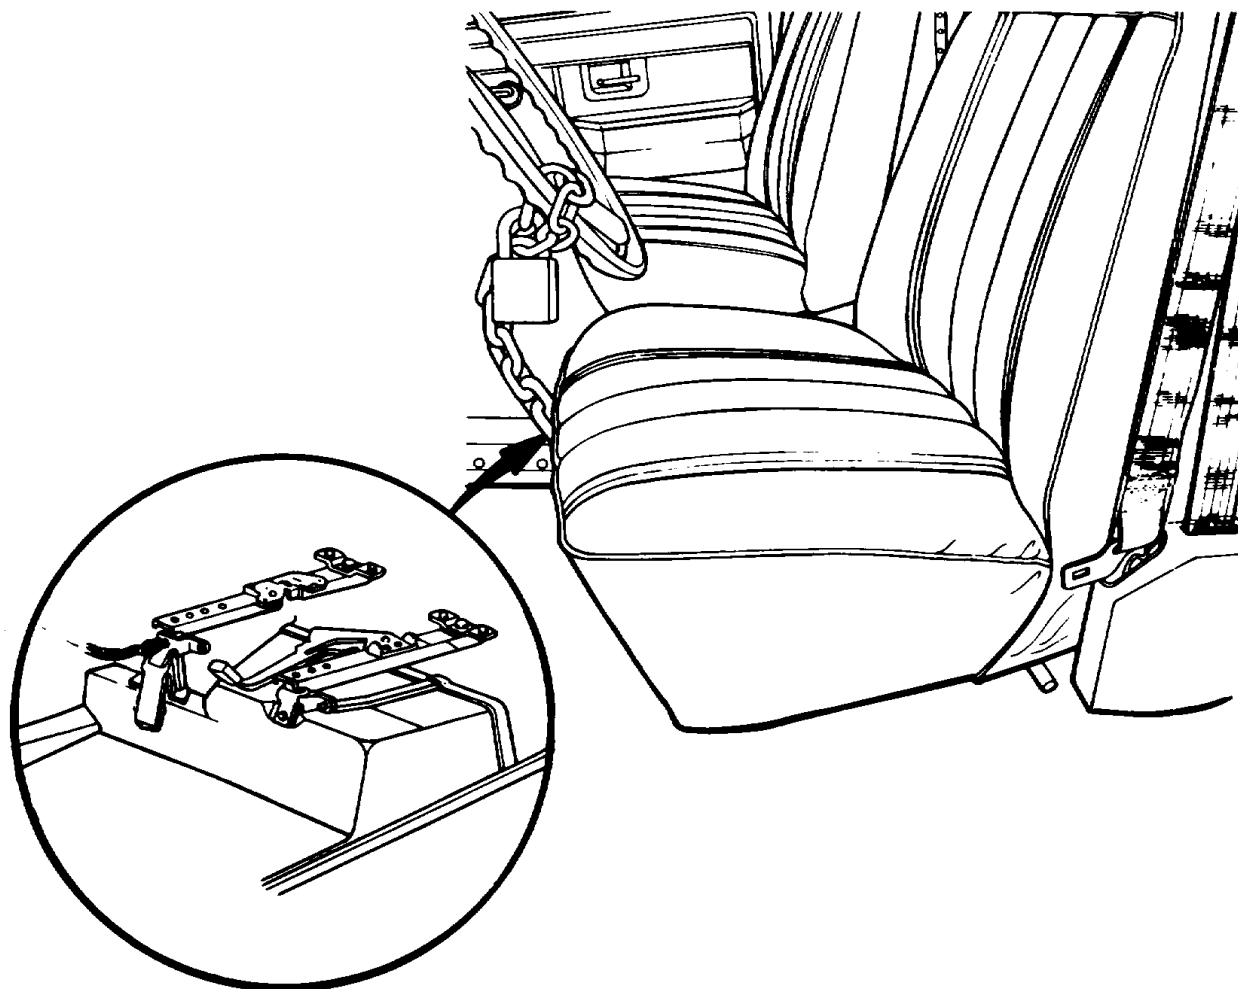

Figure 6. M1010 Ambulance Chain Position.
a. Drill a 27/64 inch hole in the forward end of driver's "Right-Hand" seat riser bracket. Locate hole 9/16 inch from the top of bracket and 5/8 inch from the edge of bracket. Insert screw in hole with threaded area facing outboard, attach end of chain with washer and nut, then tighten. After tightening, the nut should be staked to prevent removal (Fig. 6).